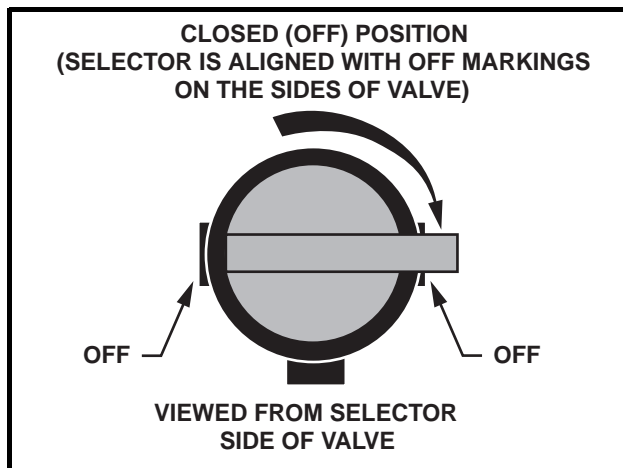

Figure 14 Fuel Shut-off Valve – Closed Position
- Turn the fuel shut-off valve to the closed (OFF) position (Figure 14).
- 6.1. Turn the fuel shut-off valve to the closed (OFF) position (**Figure 14**) and run the engine until fuel remaining in the carburetor and fuel line is depleted and the engine stalls.
- Turn the fuel shut-off valve to the closed (OFF) position (Figure 14, Page 31).